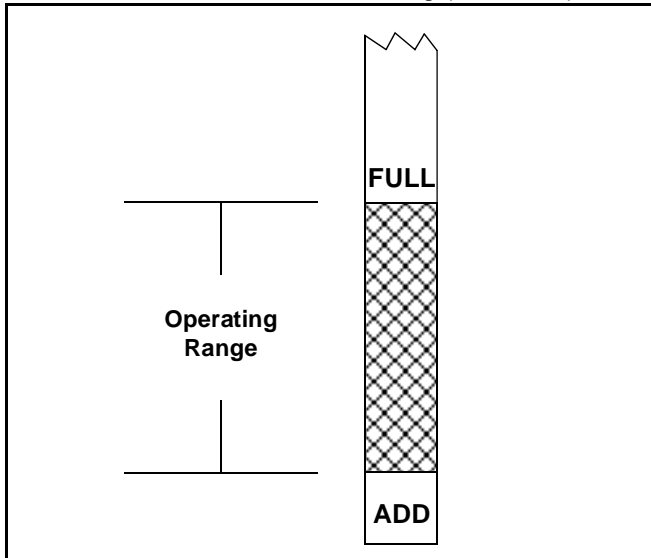

Figure 18
- Wipe the dipstick clean before pushing it back into the oil fill tube. **Do NOT thread the cap back onto the fill tube.** Withdraw the dipstick to check the oil level. Refer to Figure 18.
- Fill the crankcase until the oil level reaches the full (F) mark on the dipstick. Refer to Figure 18. Refer to the viscosity oil chart earlier in this section for information regarding the proper type of oil to add to the crankcase.
- **Slowly** pour oil into the fill tube. Fill the crankcase until the oil level reaches the full (**F**) mark on the dipstick (Refer to Figure 18).